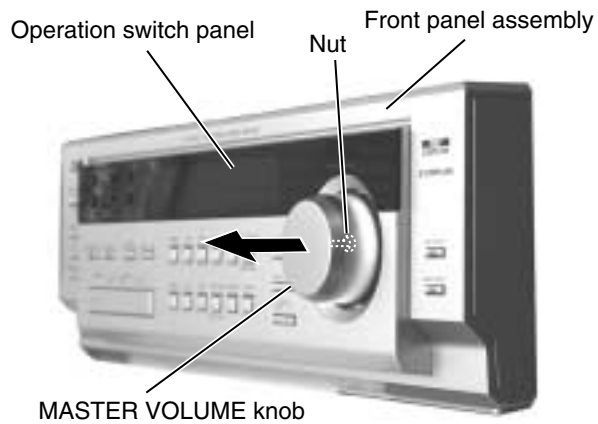

Fig.21
■ Removing the system control board / power switch board (See Fig.21 to 23)